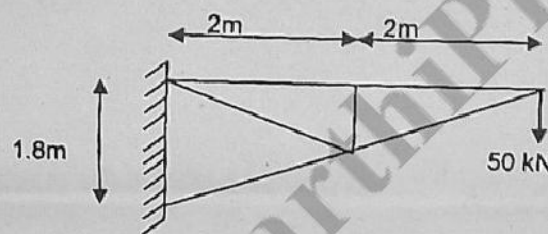

Fig. Q. 15(b)
- (b) Analyze the cantilevered truss shown in Fig. Q.15(b) by method of sections.